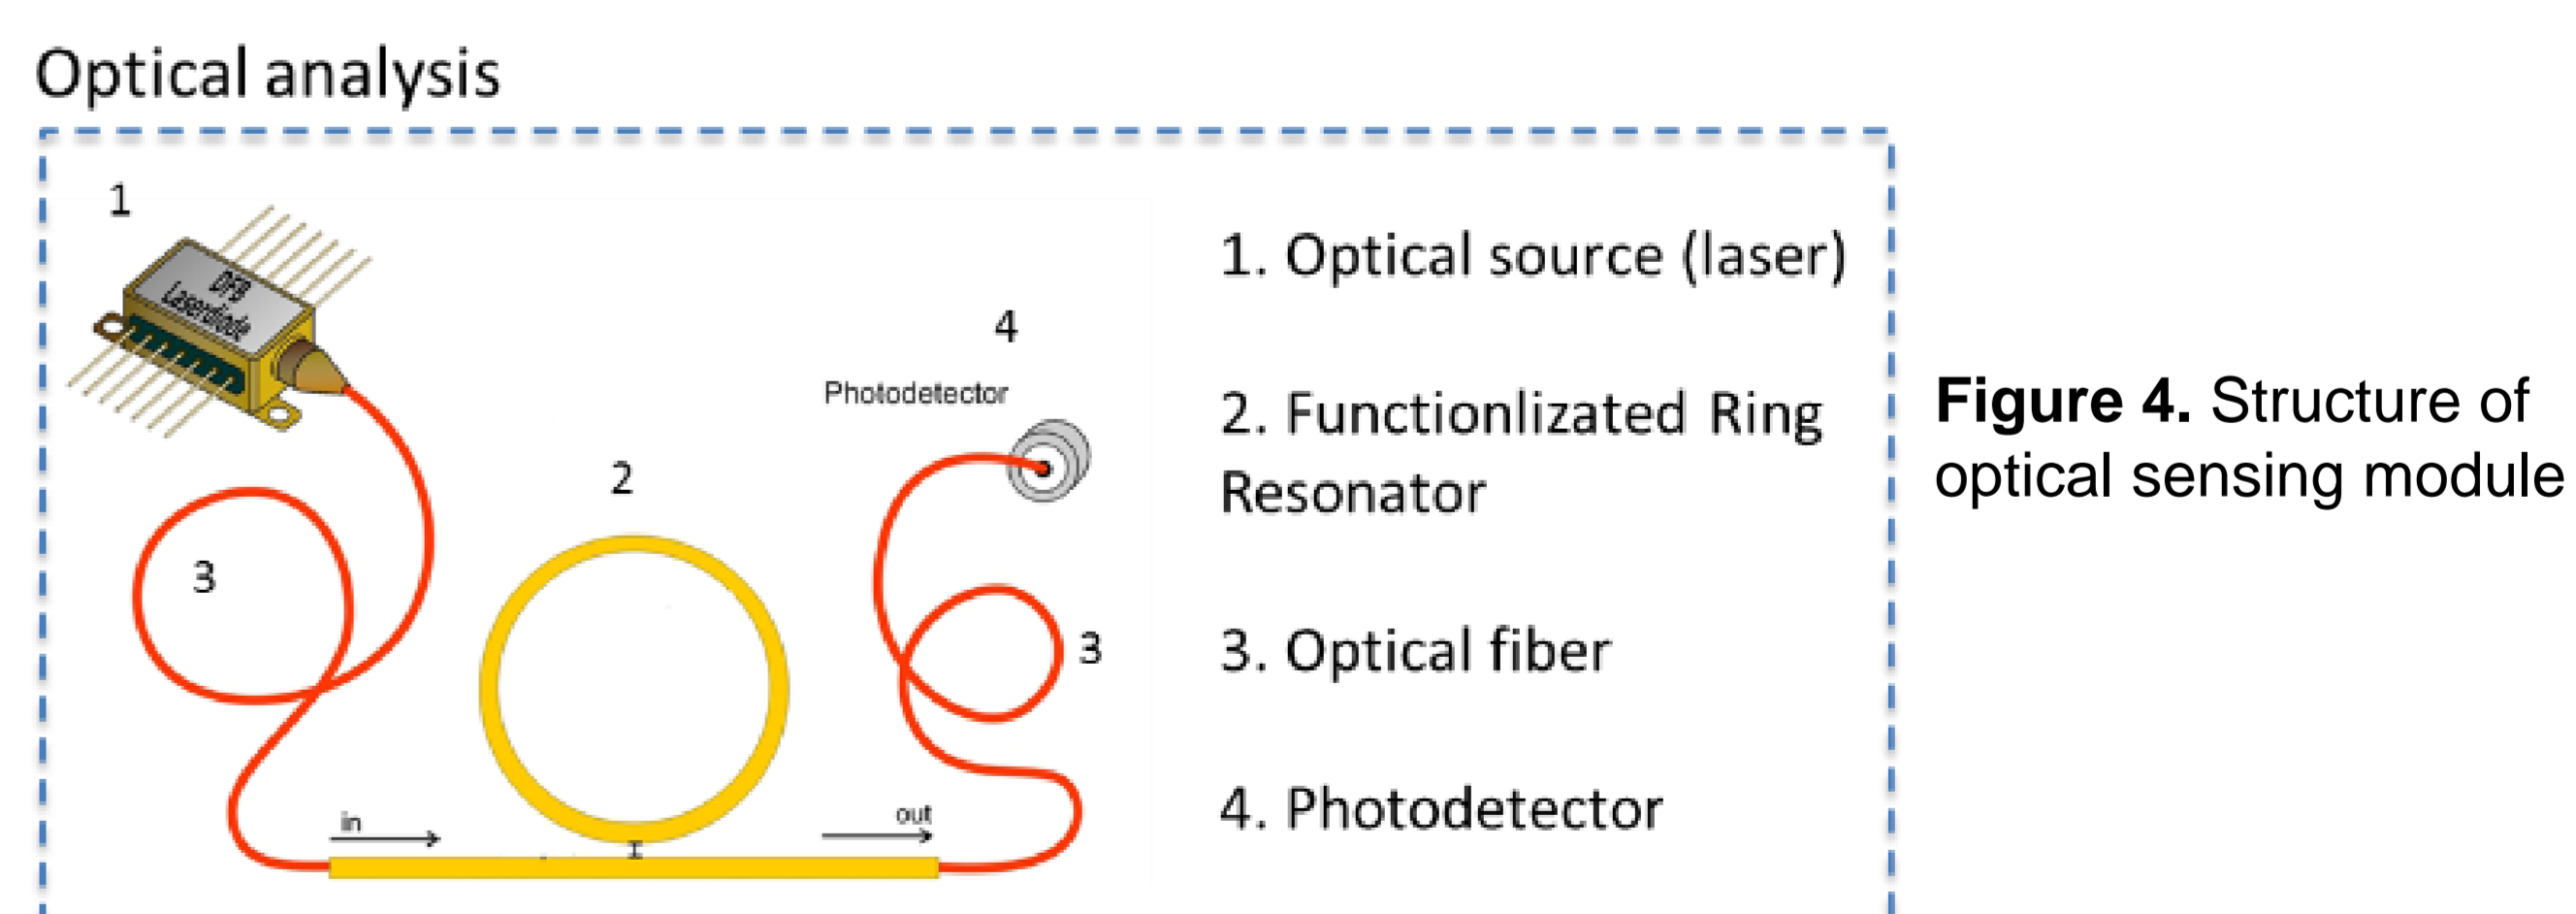

Figure 4. Structure of optical sensing module
- Optical analysis module (Figure 4)** – positive reaction (antigen capture) changes the refractive index, measured as power and wavelength shift of the laser signal